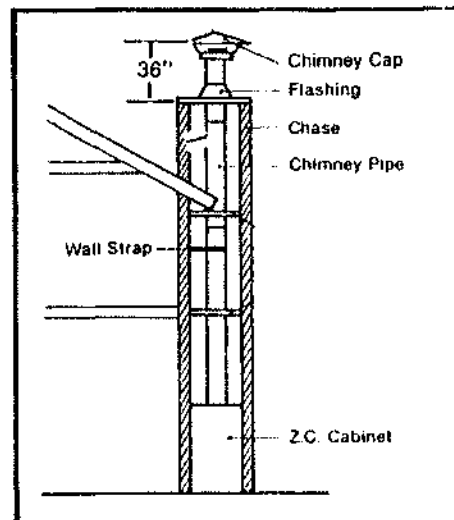

FIGURE 4 EXTERIOR WALL CHASE
- b. Chase Installation: (See Figure 4). A chase is an enclosure built specifically to house a chimney. The interior of a chase is open from the BUCKMATE to the roof, eliminating the need to cut through ceilings and the roof. Normally, a chase is built outside and against the exterior wall of a home. A hole is cut through the wall, and the BUCKMATE is located in the bottom of the chase, with the front of the unit flush with the interior wall. Chases are commonly veneered on the outside with brick, stone or wood to give the appearance of a conventional fireplace flue. Occasionally, they are built inside and boxed in, similar to a stairwell. When making a chase installation, it is important to read the chimney manufacturer's instructions prior to building, as there are specific requirements for bracing a free-standing flue that must be planned for. There are also occasions where offsets are used within a chase to accommodate unusual building designs, or to locate the BUCKMATE further into a room.